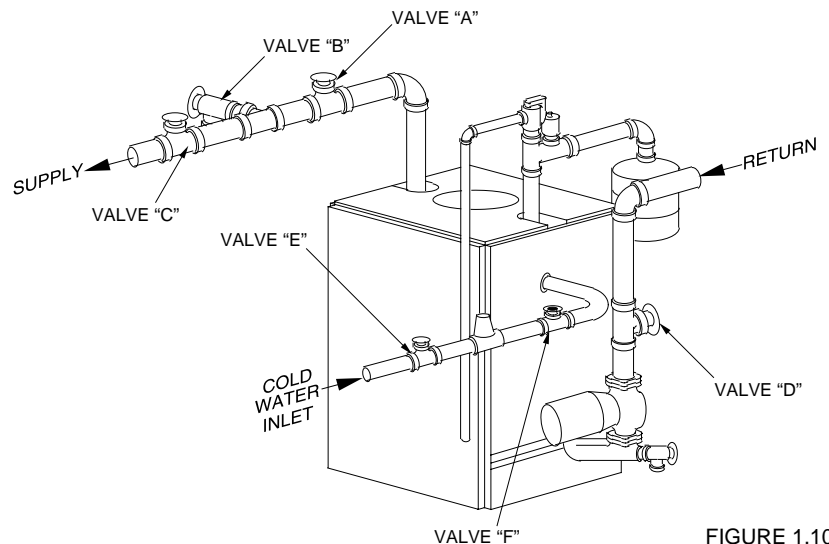

FIGURE 1.10
2. Attach hose to drain valve "B", Figure 1.10, and close valve "A". Open valves "C", "D", "E" and "F" and drain valve "B". Fill system with water until water runs out of the hose in a steady stream, no visible air bubbles.